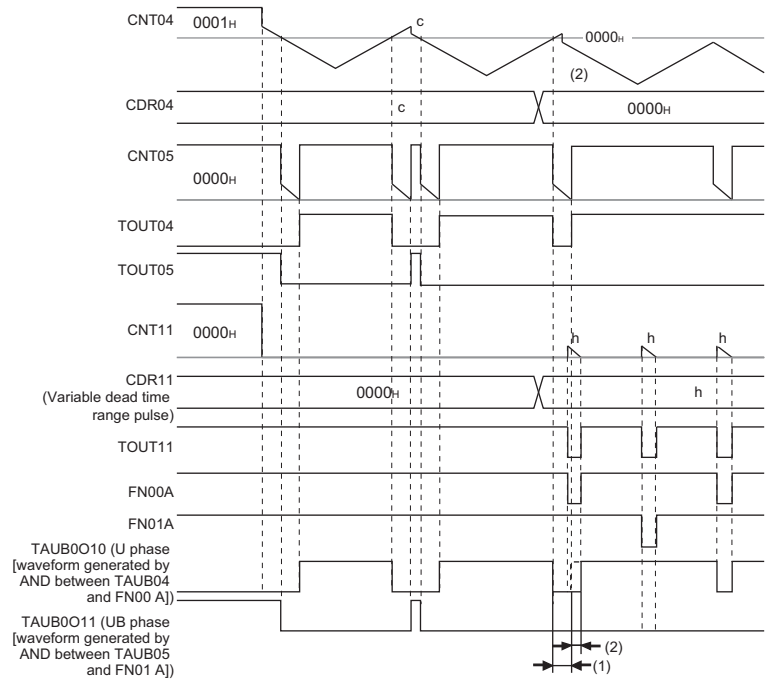

Figure 24-11 An Example of Variable Dead Time Range Pulse Giving Influence on Triangle Wave PWM Output with Dead Time
6. The pulse that is output in step (5) is converted to the variable dead time range pulse for U phase (FN00A) or UB phase (FN01A) by the combinational circuit PFN001.
7. The pulses generated in step (6) are synthesized with the TOUT04 and TOUT05 output pulses in the logical operation circuits (FN00 and FN01) and are output from TAUB0010 (U phase output) and TAUB0011 (UB phase output).
Note As shown in Figure 24-11, An Example of Variable Dead Time Range Pulse Giving Influence on Triangle Wave PWM Output with Dead Time, if a value is set for the variable dead time range pulse width in CDR11 at the same time as a 100% duty cycle value is set for U phase output in CDR04, the variable dead time range pulse affects the last PWM output from TOUT04 (indicated by (1)) by the amount of time indicated by (2), which is due to the functional specification.
For details, refer to Figure 24-11, An Example of Variable Dead Time Range Pulse Giving Influence on Triangle Wave PWM Output with Dead Time.